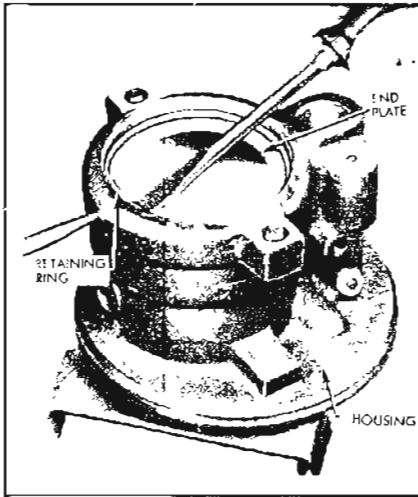

Figure 8-61—Removing End Plate Retaining Ring
8. Rotate end plate retaining ring until one end of ring is over hole in housing. Spring one end of ring with 1/8" punch to allow screwdriver to be inserted and lift ring out. See Figure 8-61.